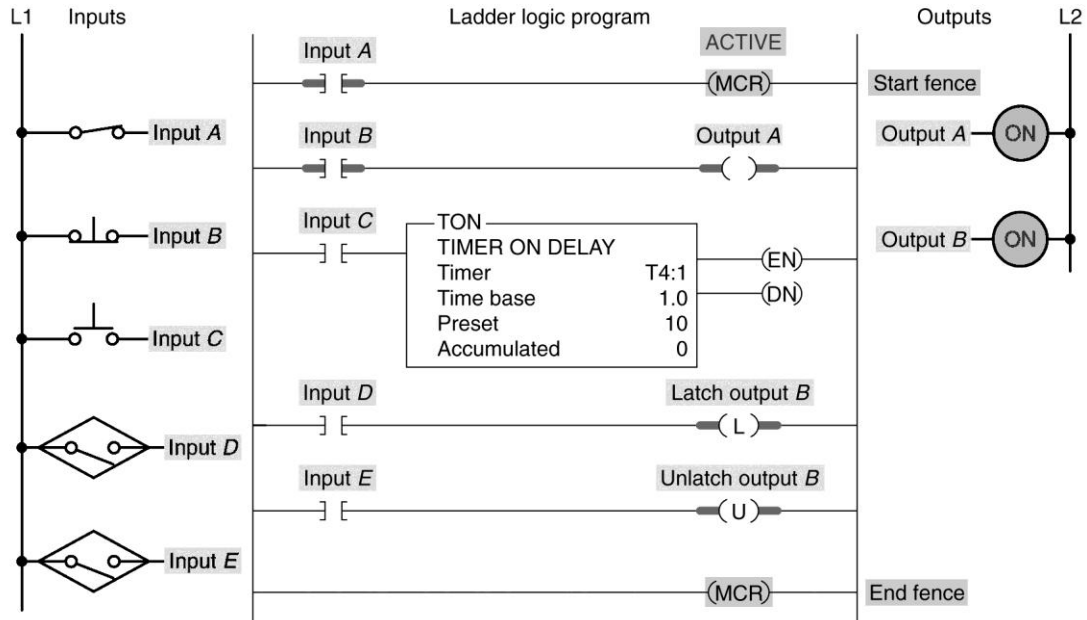

Figure 9-10 Program for assignment 2.
2) Construct a simulated program for the MCR fenced zone program of Figure 9-10. After constructing your program on paper, enter it into the PLC. Demonstrate how the rungs between the two MCR instructions are controlled.